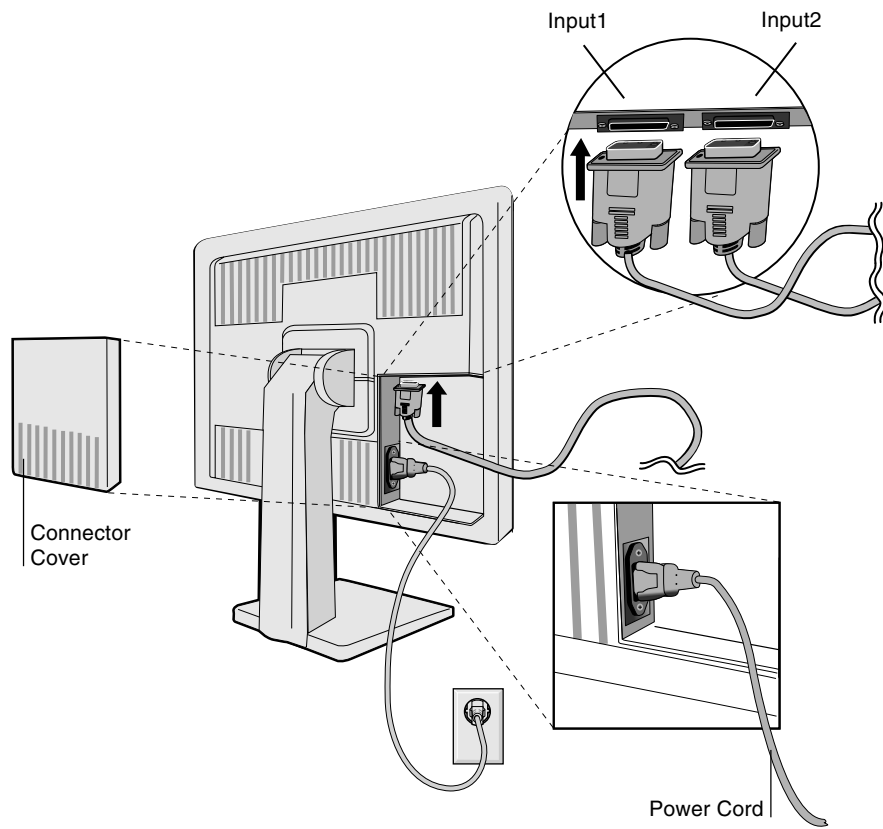

Figure C.1
3. Remove connector cover. Connect the 15-pin mini D-SUB signal cable to the connector on the back of the monitor. Place the video signal cable (**Figure C.1**).
4. Connect one end of the power cord to the AC inlet on the back of the monitor and the other end to the power outlet (**Figure C.1**). Replace the connector cover.